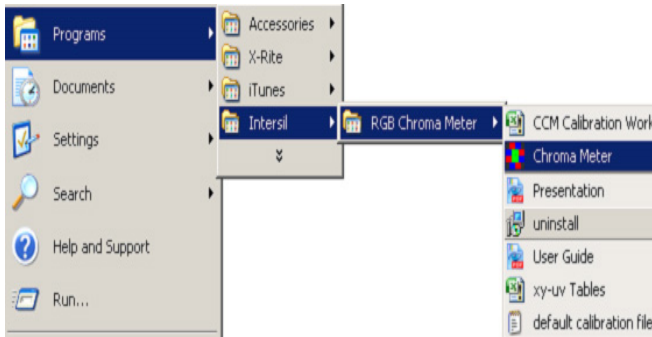

FIGURE 11. INSTALLATION READY TO INSTALL SCREEN
- B) **Launching the RGB GUI** - Once the installation is complete, click “Finish” to launch the RGB GUI. If you wish to launch from your PC desktop, use the path shown in Figure 11. (Start → Program → Intersil → RGB Chroma Meter → Chroma Meter.
3. To open the CCM Worksheet, go to the "Start" menu, (Start → Intersil → RGB Chroma Meter → CCM Worksheet). The CCM Worksheet contains the coefficient for the specific evaluation board (Figure 11, but choose CCM Worksheet Excel).